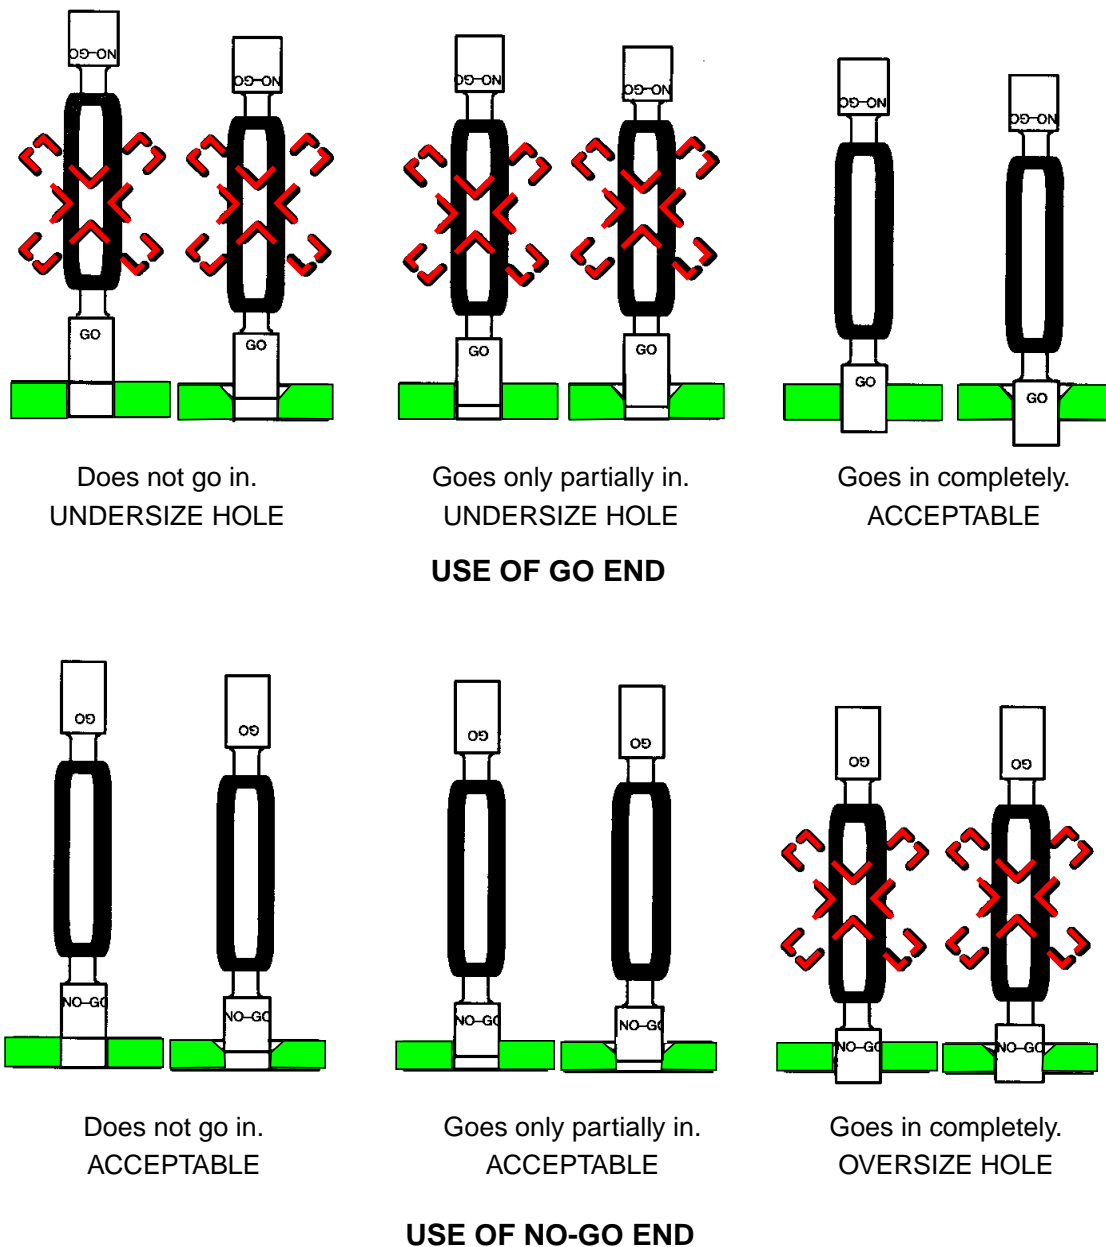

Figure 5 - Use of Go/No-Go Gauges
- 5.3.1 Check selected fastener holes for conformance to the requirements of Table 4 using the applicable go/no-go gauge as follows (see Figure 5):